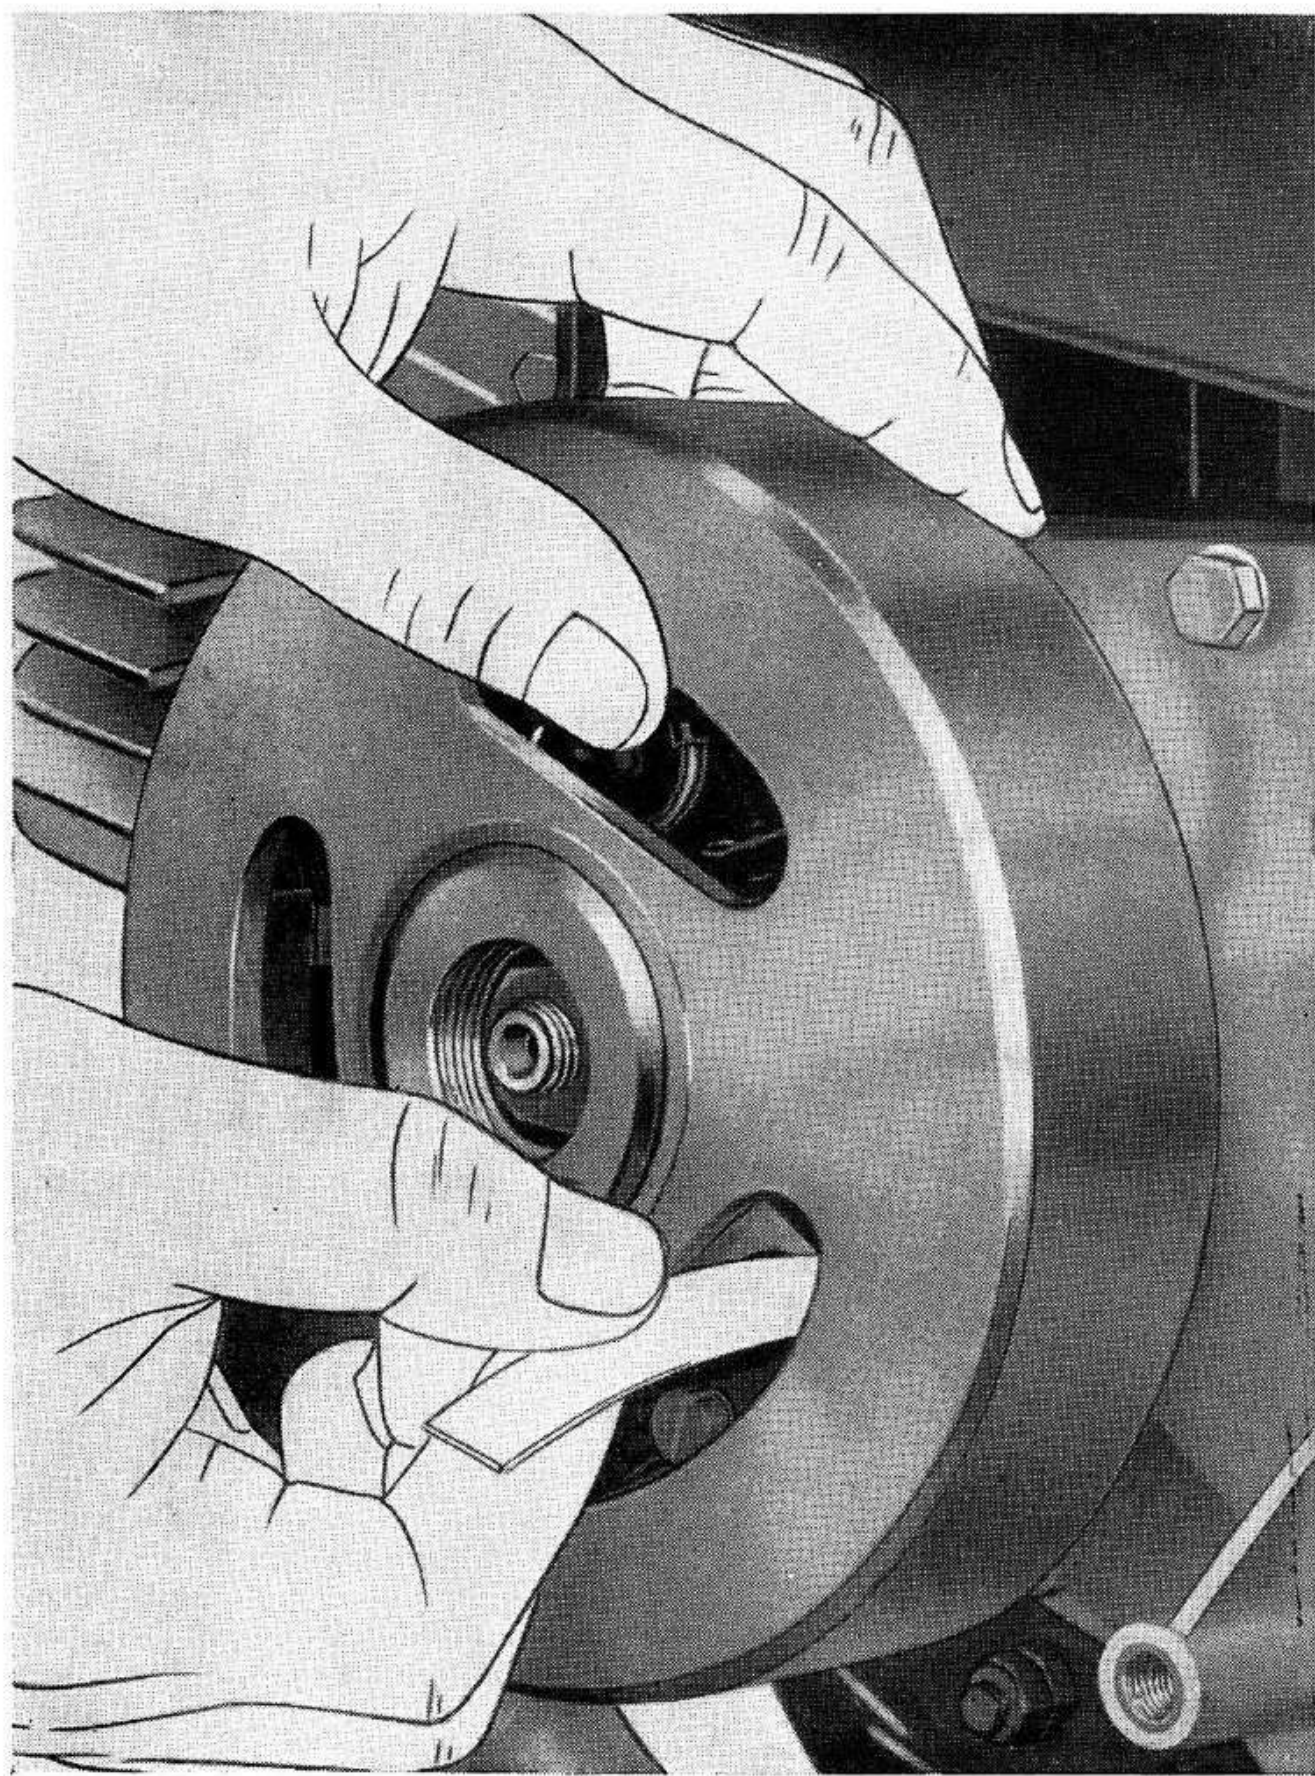

Fig. 8
4) Using a screwdriver through the webs of the flywheel slacken the 3 screws holding the back plate and introduce a piece of very thin paper in between the points. Then turn the flywheel anticlockwise until the points just grip the paper. Exerting a slight pressure (see fig. 8), turn the flywheel clockwise until the paper is released. Check now the distance obtained on the flywheel and if more or less than 40 mm. (1.57") turn the plate to the right to decrease or to the left to increase the distance. Finally, tighten the 3 screws to lock the plate in position.